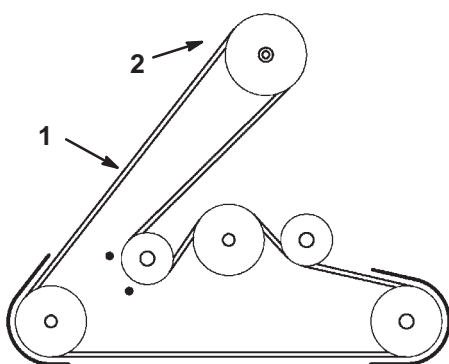

Figure 41
12. Remove the mower belt from the electric clutch pulley (Fig. 41).